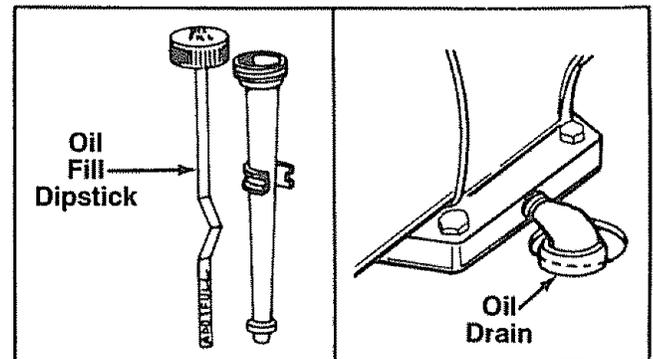

FIGURE 12.
- Fill engine with oil as follows. Remove oil fill dipstick. See figure 12. With chipper-shredder level, use a funnel to fill engine with oil to FULL mark on dipstick. Capacity is approximately 1-1/4 pints. Be careful not to overfill. Tilt chipper-shredder toward the left (from behind the hopper), then re-level. Check oil level. Refill to FULL mark on dipstick if necessary. Replace dipstick and tighten.
- a. Remove oil drain plug. Refer to figure 12. Catch oil in a suitable container.